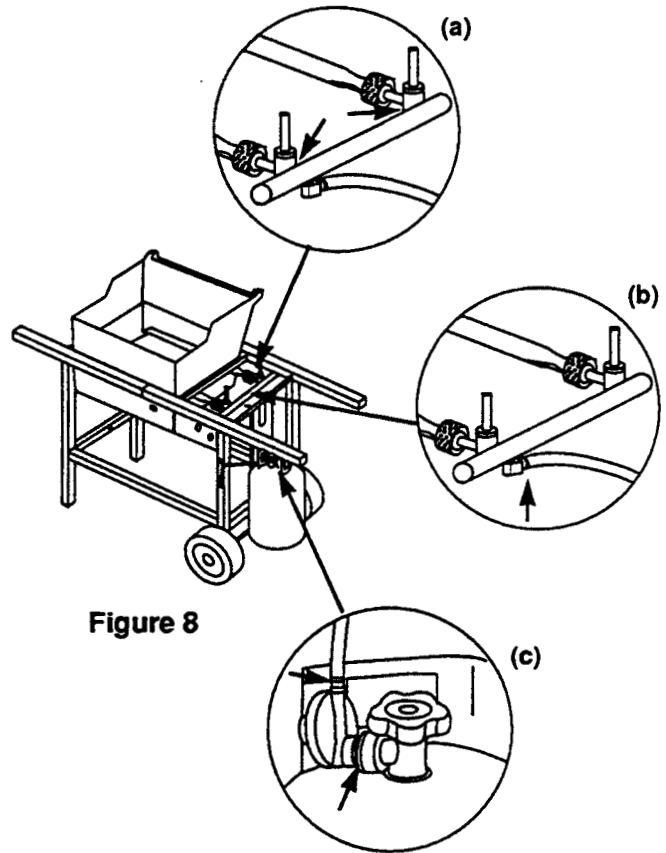

Figure 8
- Valves to manifold connections. Figure 8 (a).
- Hose to manifold connection. Figure 8 (b).
- The hose to regulator connection and regulator to tank connection. Figure 8 (c).